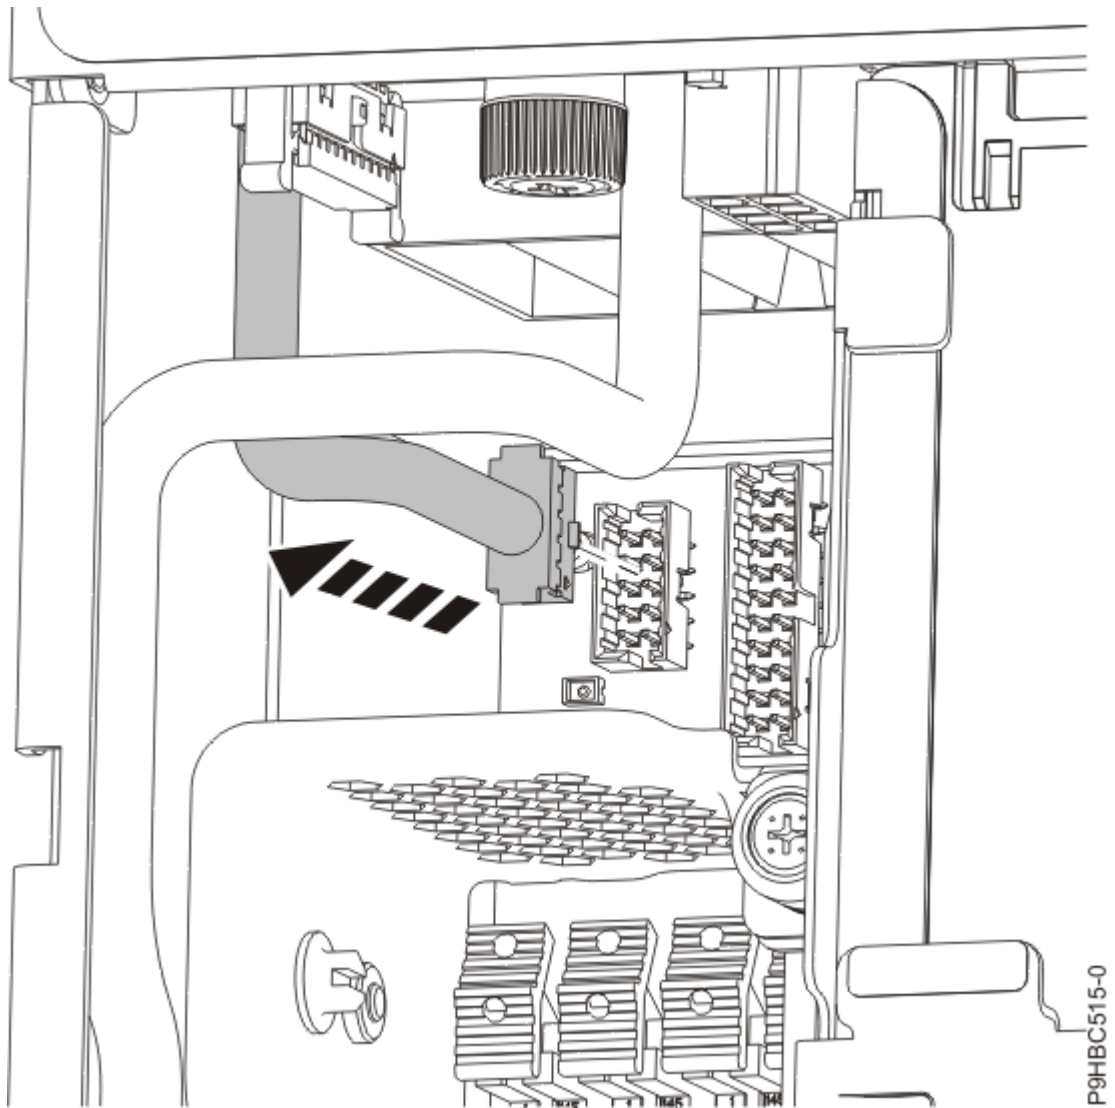

Figure 54. Disconnecting the control panel display cable from the system backplane
3. Unplug the control panel display cable from the system backplane as shown in Figure 54 on page 59.